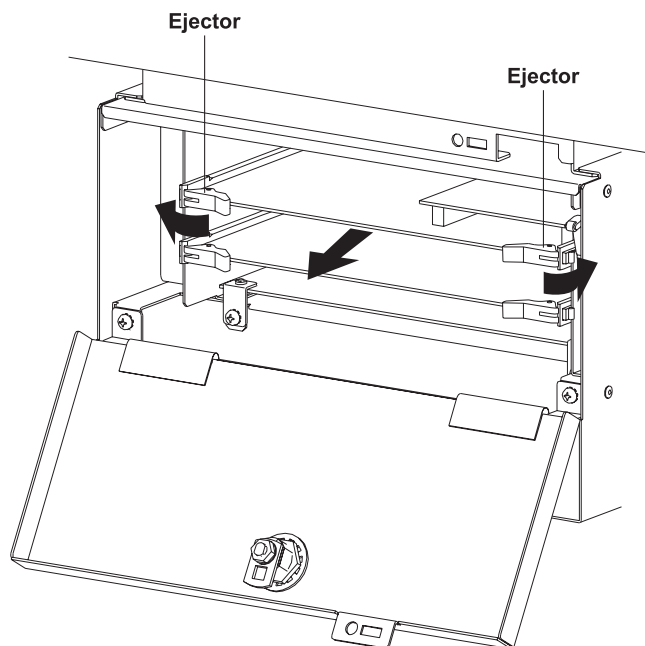

Figure 4-13 Removing the Main Control Unit
3. Pull the ejectors on both sides of the circuit board to remove it (see *Figure 4-13 Removing the Main Control Unit*).